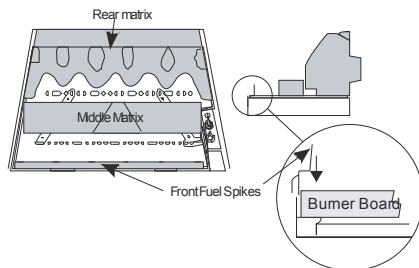

Figure 23
2. Place the **middle matrix** onto the burner board so that it keys into the triangular depression on the board (see **Figure 23**).
3. Insert the front fuel spike between the board and the front of the metal tray (see **Figure 23**).